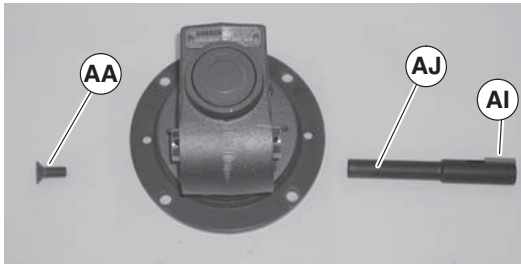

Figure 20
- Remove two (2) screws (AG) and detach output shaft cover (AH).
- Remove M10 shaft locking screw (Figure 20, item AA), remove gear reducer output shaft (AJ) and key (AI).
Output shaft (Figure 20, item AJ) is held in Gear Reducer with a tapered press fit. Removal may require use of an arbor press.
- Insert the new shaft with key (Figure 20, item AI) into new gear reducer. Tighten M10 shaft locking screw (AK) to 300 in-lbs (34 N-m).